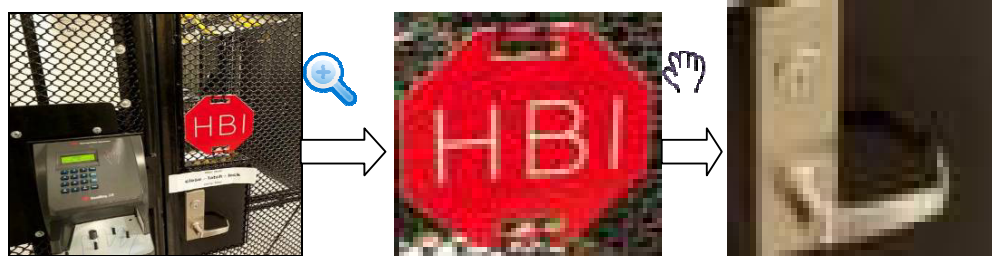

Figure 3-24
- Put the middle button at the centre of the zone you want to zoom in, and move the mouse, you can view an interface shown as in Figure 3-24.